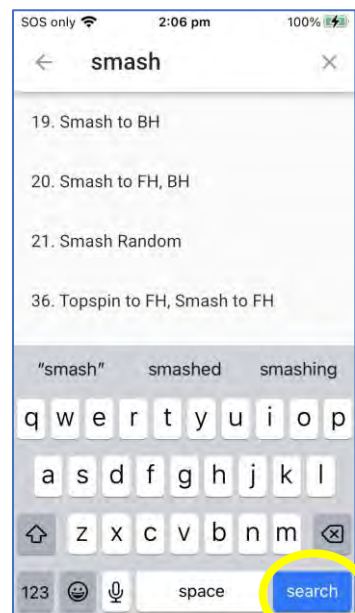

Figure 3-25
- In the Search field, you can enter any collection of characters that will become your search string. For example, type the word “smash” and then press the search button on your device. (Figure 3-25)